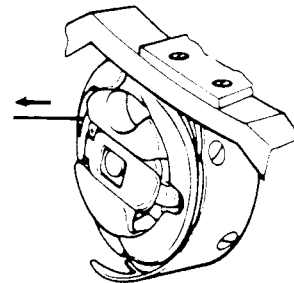

Fig. 9
1. In addition to the regular tension spring, a special spring to prevent spillage of the bobbin is provided on the bobbin case used on this machine, therefore the tensions of the two springs should be adjusted to give 20 to 25 gram thread tension when thread is pulled in the direction shown in Fig. 9.